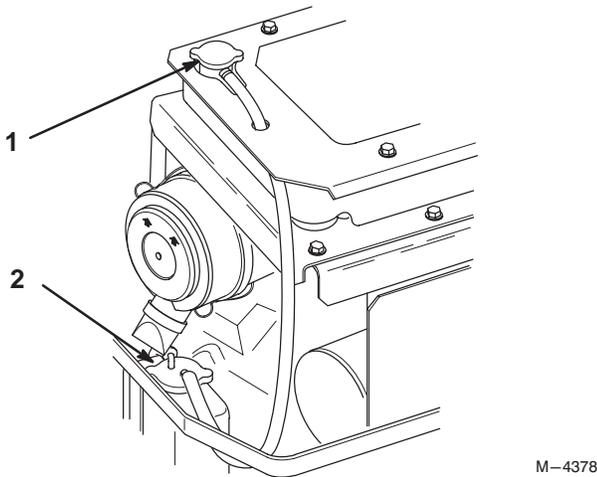

Figure 9
- With the engine cool, remove the radiator cap (Fig. 9).
6. Add 50/50 coolant mix to overflow bottle and fill to indicator line on the bottle, if required (Fig. 9).